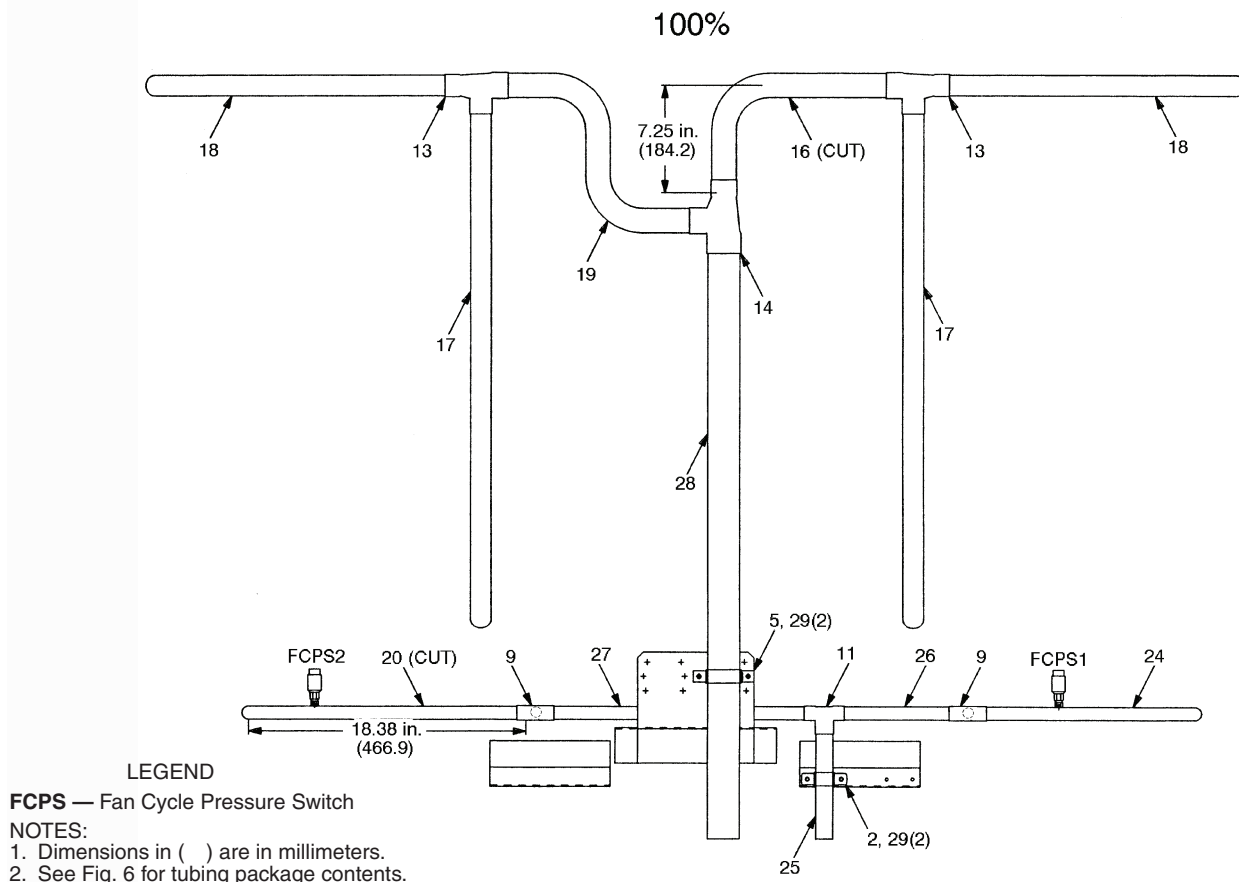

Fig. 23 — 100% Coil Circuiting; 09DK084 Units
Install Fan Cycle Pressure Switches and Clamps — Braze 2 valve core bodies (item 6) to designated hole locations on tubes 20 and 24. Insert valve cores (item 7) into valve core bodies by threading into place and tightening to 1.5 to 3 in.-lb (169.5 to 339 mN-m). Install FCPS1 and FCPS2 (item 8) at designated locations on tubes 20 and 24. Cut the $\frac{3}{8}$ -in. field-supplied FCPS conduit to fit between each FCPS location and the junction box on the unit. See Fig. 13 for typical conduit installation. Feed FCPS wires through each conduit and secure at the switch using each conduit connector. See Fig. 15. Secure the conduit at the junction box with $\frac{3}{8}$ -in. field-supplied conduit connectors. Wire FCPS1 and FCPS2 according to Fig. 20. At the location specified in Fig. 23, clamp hot gas line, tube 28, using $2\frac{1}{8}$ -in. clamp (item 5) and 2 screws provided. Clamp the liquid line, tube 25, using $\frac{1}{8}$ -in. clamp (item 2) and 2 screws provided.